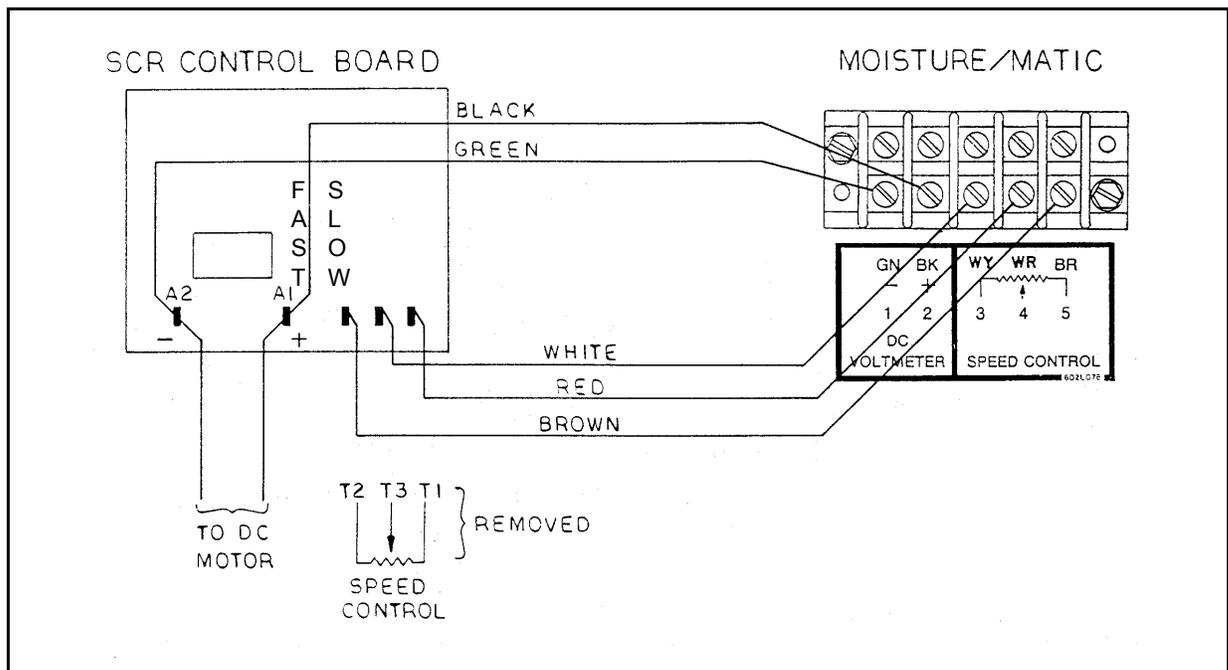

Figure 4P
### Electrical Hook-up (See Figure 4P).
- b. In the Moisture/Matic control box, locate the five (5) post terminal. This has “DC Voltmeter” written on it. The green wire should be placed on terminal one (1) and the black on terminal two (2).
3. Speed Control Hook-Up: Locate the three (3) leads on the SCR control board (in the dryer control box) that are attached to the speed control potentiometer. (See Figure 4P).
- b. Determine the center lead from the speed control potentiometer. (This may not be the center lead on the SCR board). Remove this wire from the SCR board and replace it with the red wire in the five (5) conductor cable from the Moisture/Matic.